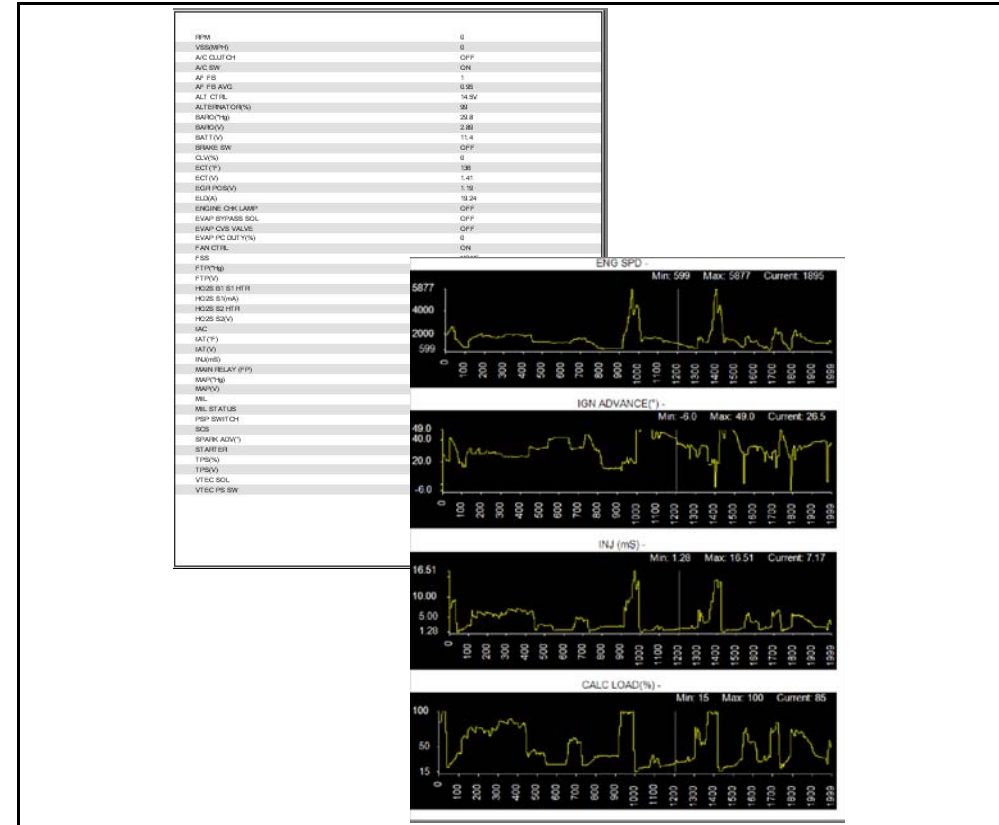

Figure 12-9 Print preview window (text list and graphs examples)
- b. If Print Preview was selected, a preview window opens. Select the printer icon (*Figure 12-9*) to send the file to the printer.